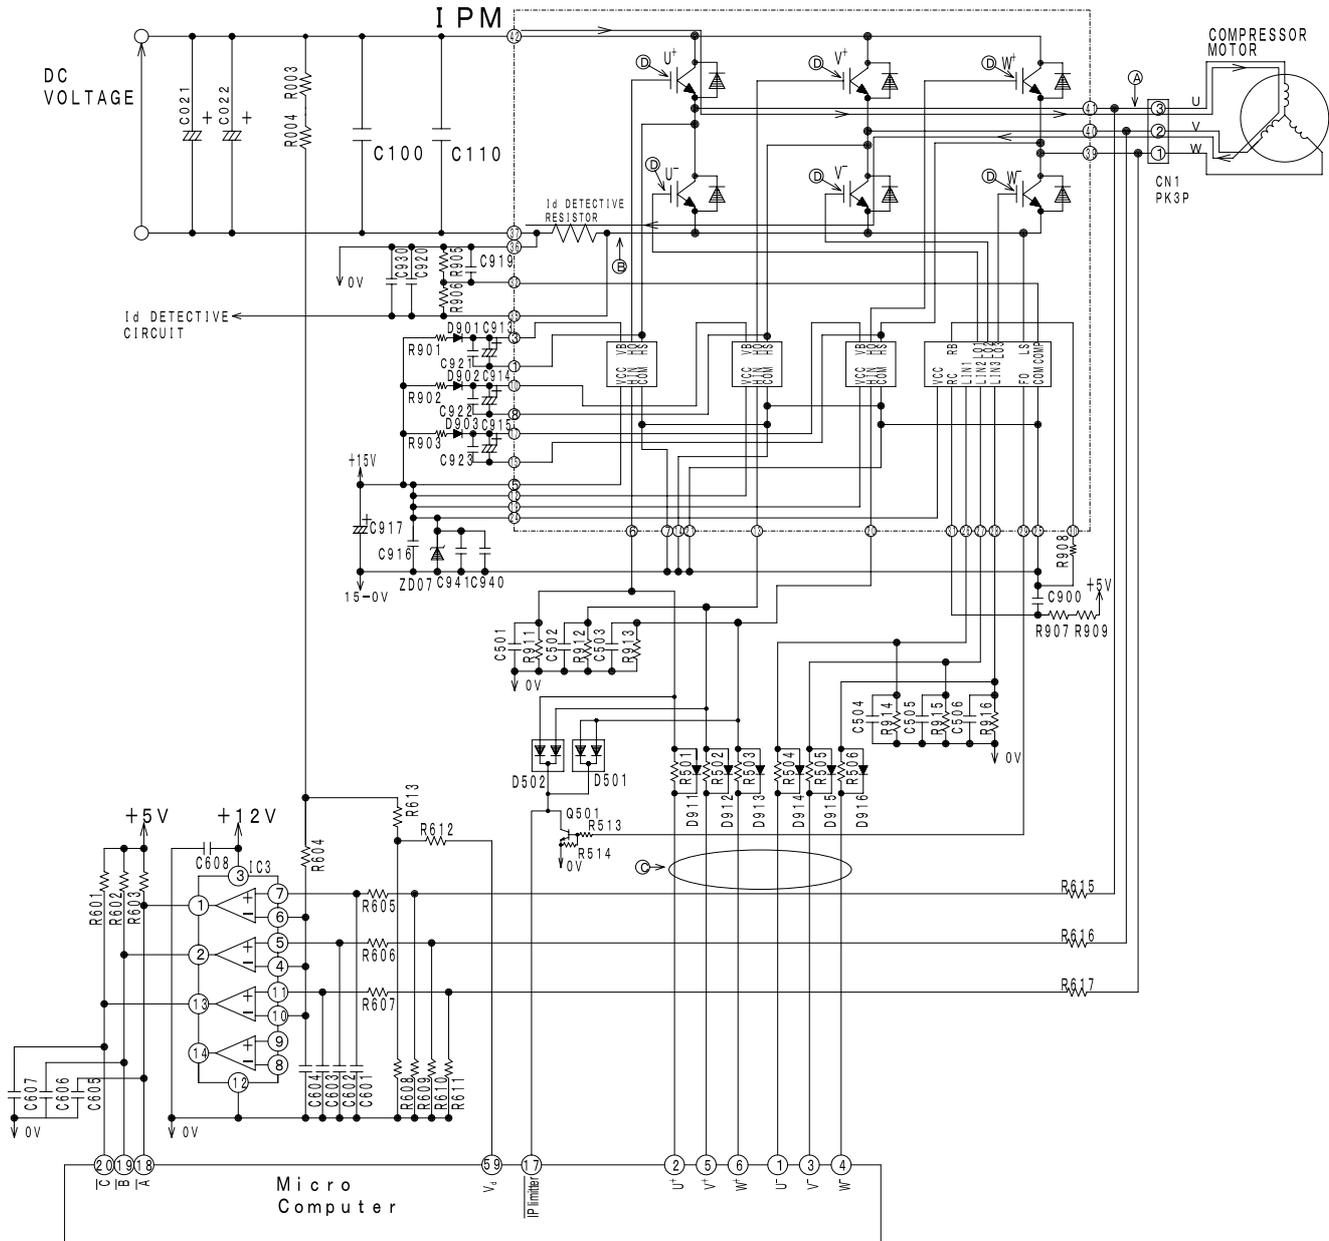
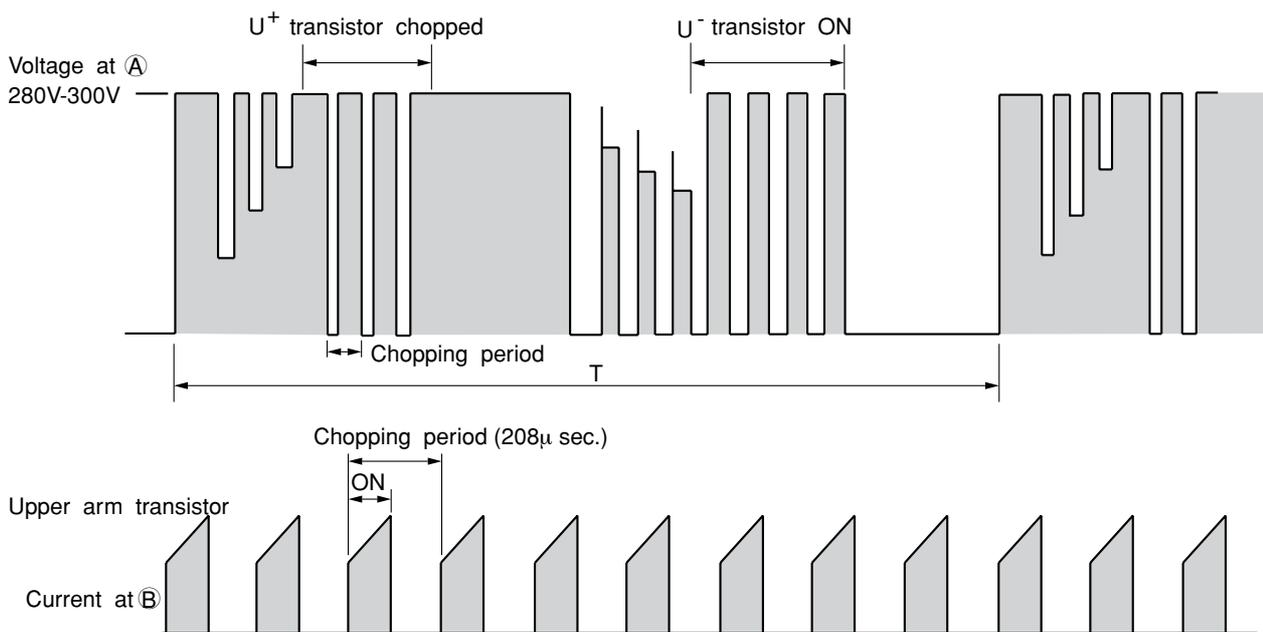

Fig. 4-1 Intelligent power module circuit (U⁺ is ON, V is ON)
Fig. 4-3 Voltage waveform at each point
- Fig.4-1 shows the intelligent power module and its peripheral circuit. The three transistors on the positive e side are called the upper arm, and the three transistors on the negative d side, the lower arm.
At point ⑤: U⁺ is ON, V⁻ is ON (circuit in Fig.4-1)
Fig. 4-3 shows voltage waveform at each point shown in Figs. 4-1 and 4-4. First half of upper arm is chopper, second half is ON, and first half of lower arm is chopper, second half is ON.
- (1) When U⁺ transistor is ON: U⁺ transistor → U coil → V coil → V⁻ transistor → DC current detection resistor → Point ⑤ (Fig. 4-1)
Since current flows at point B only when U^+ transistor and V^- transistor is ON, the current waveform at point B becomes intermittent waveform as shown in Fig.4-3. Since current at point B is approximately proportional to the input current of the air conditioner, input current is controlled by using DC current (I_d) detection resistor.